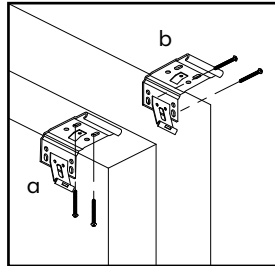

fig. 1
1. Screw two brackets to mounting surface using the screws provided (fig. 1). Brackets may be installed for (a) ceiling mount or (b) wall mount applications. Ensure both brackets are level and parallel to each other.